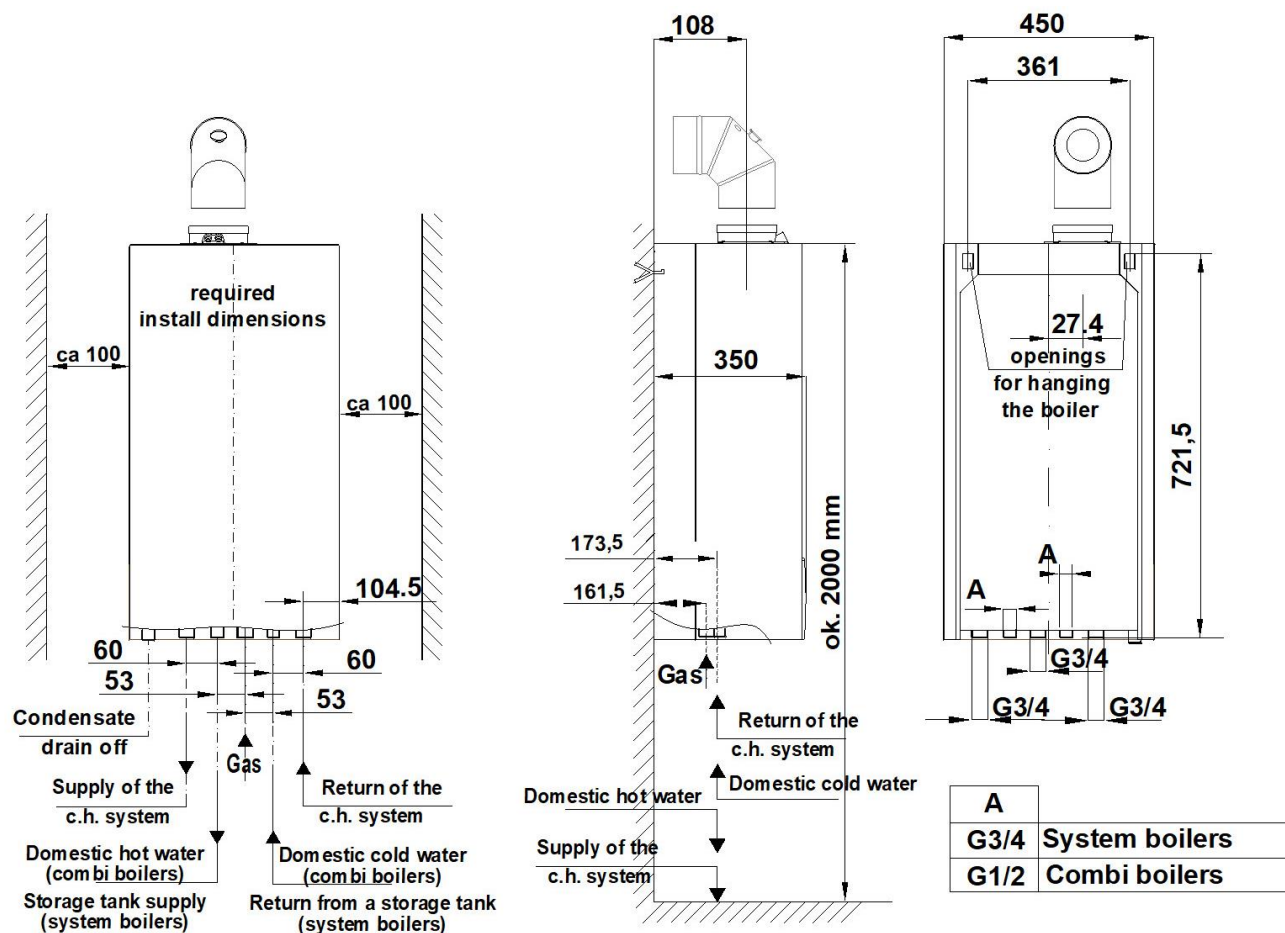

Fig. 3.3.1. Installation dimensions of boiler
- Power supply and return connectors of the central heating boiler should be screwed to the installation. Location of the connectors → Figure 3.3.1.
- It is recommended to lead out a water from a safety valve 0,3 MPa (3 bar) (item 25) to a floor drain by a tube or hose otherwise during the safety valve activation there is a risk of flooding a room what is excluded of producer's liability.